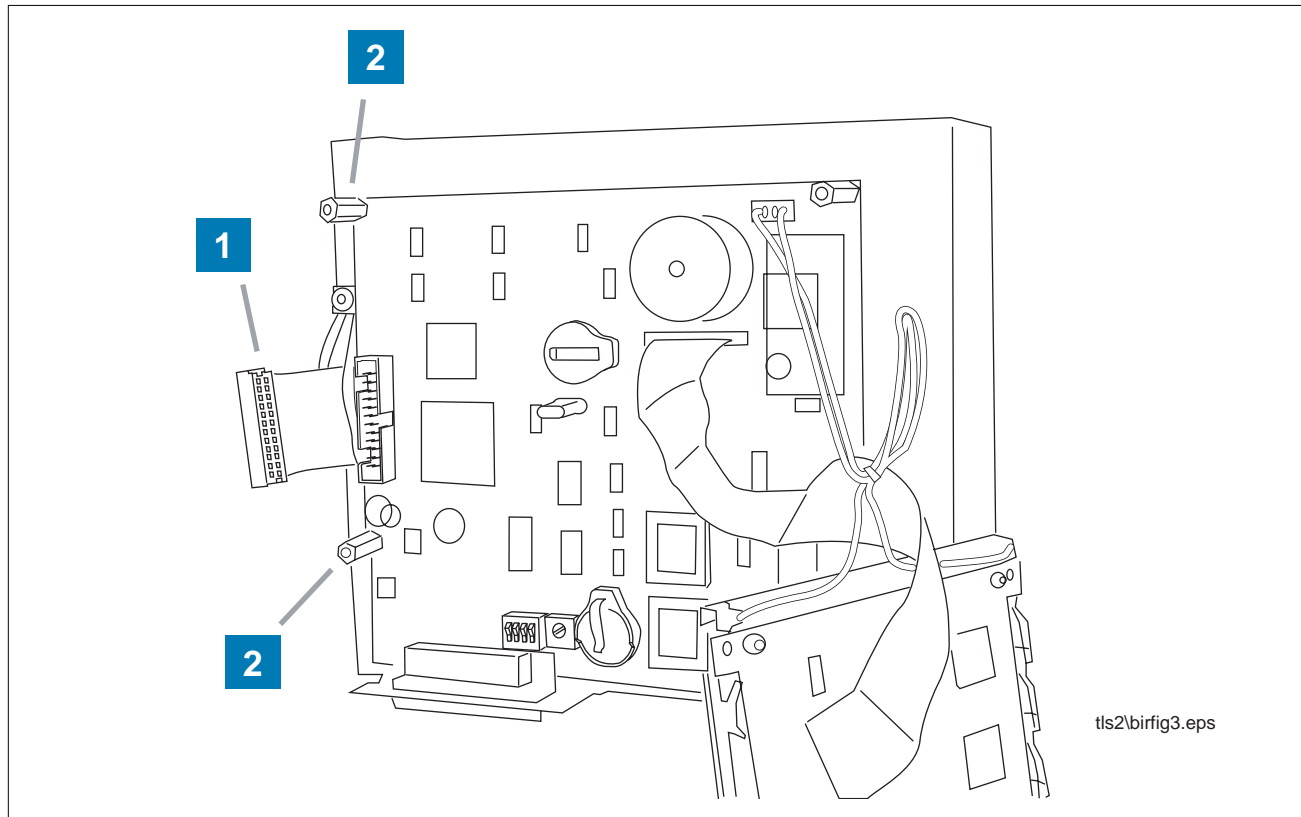

Figure 3. Preparing the CPU board for the DIM module
- 5 Disconnect the ribbon cable from the connector (J1) on the left edge of the CPU board (item 1 in Figure 3).
- 6 Remove the two hex standoffs (item 2 in Figure 3) from the CPU board and replace them with the two 0.688" long hex standoffs in the kit. Tighten the two standoffs.